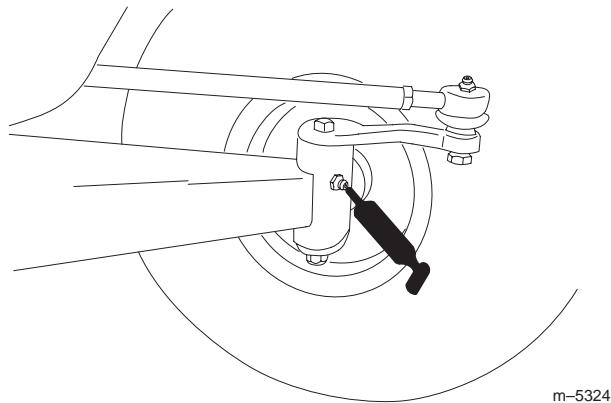
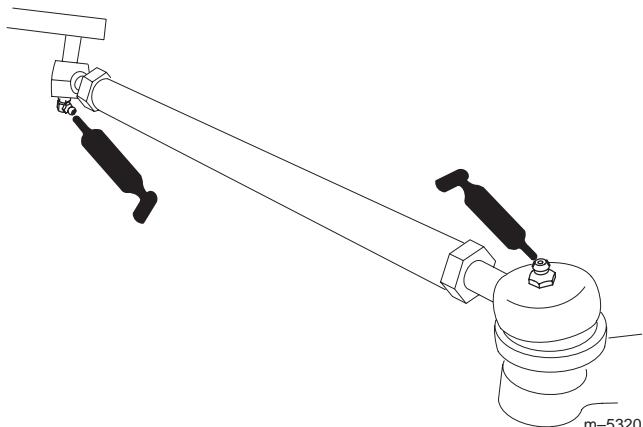

Figure 22
Figure 21
The grease fitting locations are at the tie rod ends (4) (Fig. 21) and the king pins (2) (Fig. 22).